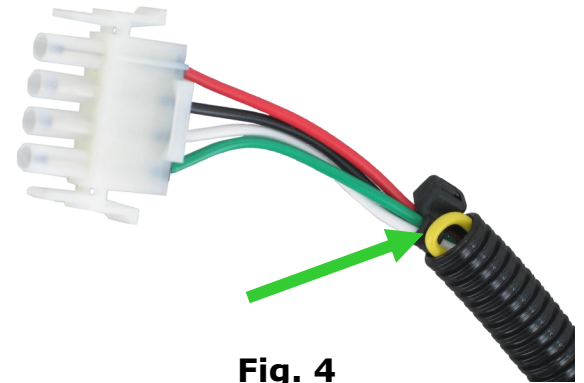
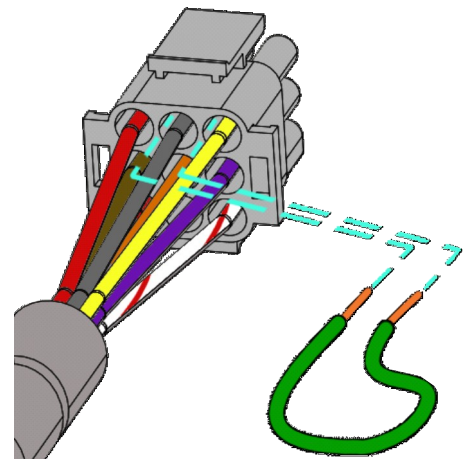

Fig. 4
Fig. 5
2. Short the yellow “LEARN” wire to ground for 2 seconds. If this is an eGRAB chrome grab-handle, the “LEARN” wire is tucked up just inside the convoluted tubing covering the keypad’s harness (Fig. 4). If this is an embedded keypad, the “LEARN” wire is in the 9-Pin connector of the unused harness (Fig. 5).